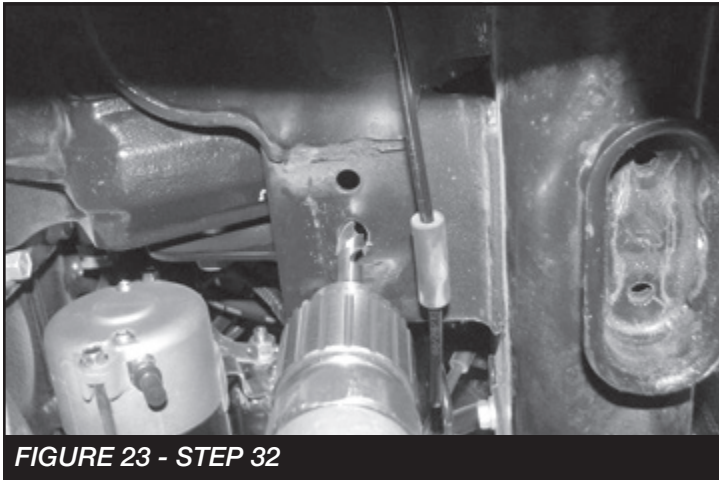

FIGURE 23 - STEP 32
32. Using a 1/2" drill bit, drill out the hole in the factory crossmember inline with the factory bump stop mount. **SEE FIGURE 23**